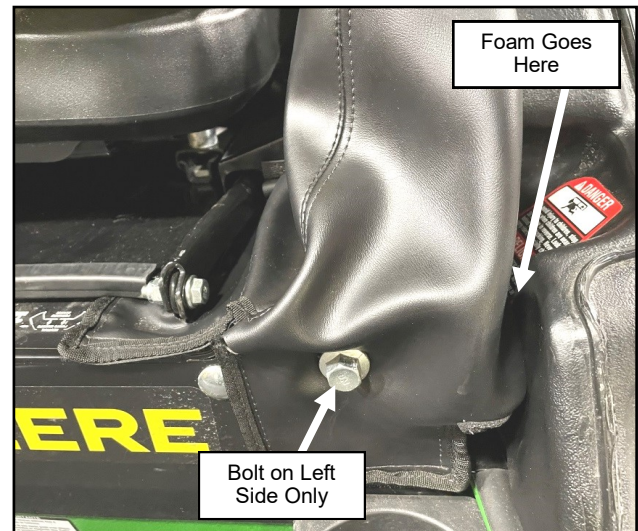

Fig. 2.22 (Install Left Filler, Outside)
2.21 Slide the supplied right hand drive handle boot down over the drive handles. (The right filler does not have the hole shown in Figure 2.22)
Slide the hole in the left boot over the head of the adjustment bolt as shown in Figure 2.22 upon installation.